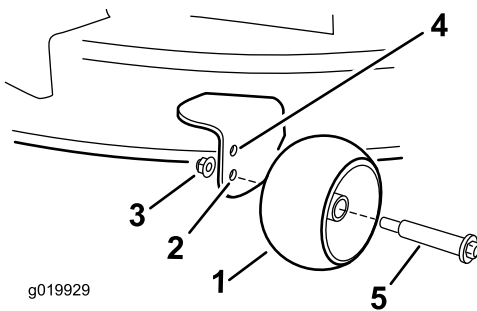

Figure 22
- Upper hole—use this position with the mower deck in the 63 mm (2-1/2 inches) and below the height-of-cut positions (Figure 22).
- Lower hole—use this position with the mower deck in the 76 mm (3 inches) and above the height-of-cut positions (Figure 22).